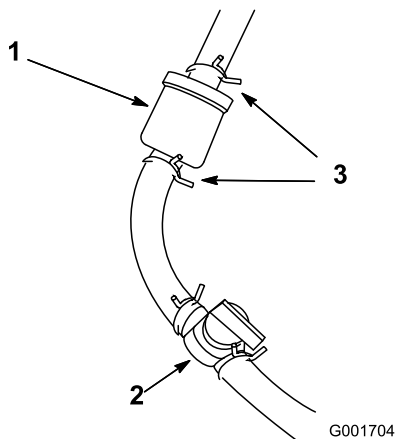

Figure 37
3. Close fuel shut-off valve (Figure 37).
4. Loosen the hose clamp at the fuel filter and slide it away from the fuel filter (Figure 37).
5. Pull the fuel line off fuel filter (Figure 37). Open fuel shut-off valve and allow gasoline to drain into a gas can or drain pan.
6. Install the fuel line onto the fuel filter. Slide the hose clamp close to the fuel filter to secure the fuel line (Figure 37).